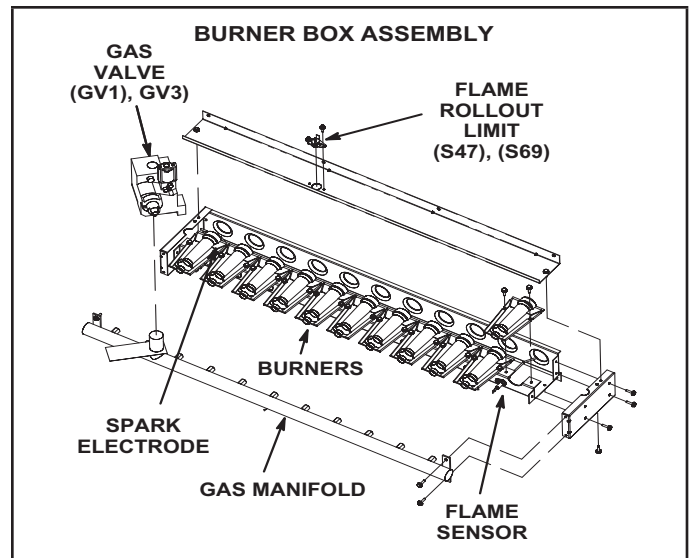

FIGURE 25
- 3 - Remove two screws securing burners to burner support and lift the burners from the orifices. See figure 25. Clean as necessary.